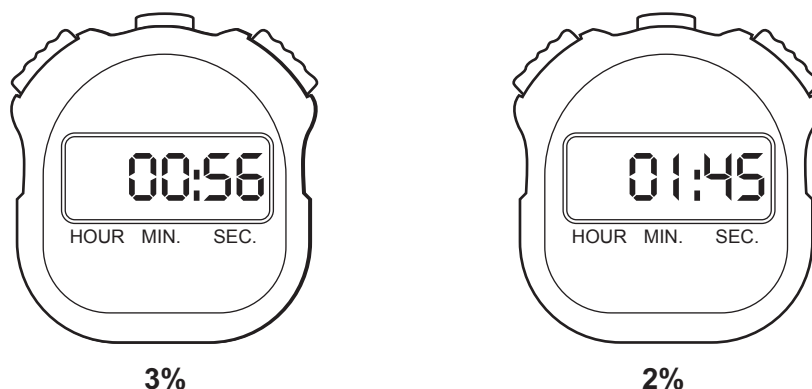

Fig. 2.2
- (ii) Fig. 2.2 shows the readings on the stop-clocks for **3%** and **2%** hydrogen peroxide solutions for the repeat experiment.
Record in Table 2.1 the times shown in Fig. 2.2. [2]